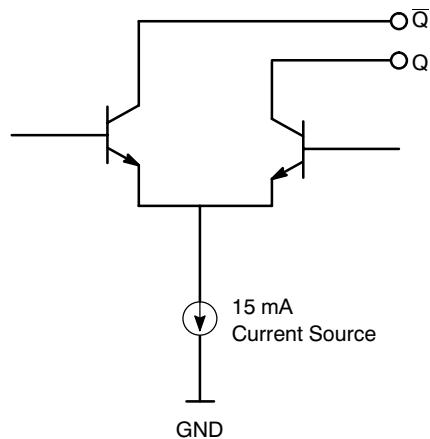

Figure 4. Output Structure
\*The PECL Outputs are 15 mA open collector and must be DC loaded and AC terminated. See Figures 4, 5 and 6.
5. PECL outputs loaded with external resistors for proper operation (see Figures 4, 5 and 6).